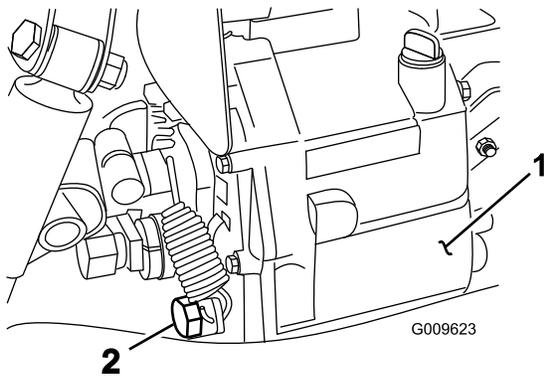

Figure 59
2. Remove the drain plug from the side of the reservoir and let the hydraulic fluid flow into a drain pan (Figure 59).